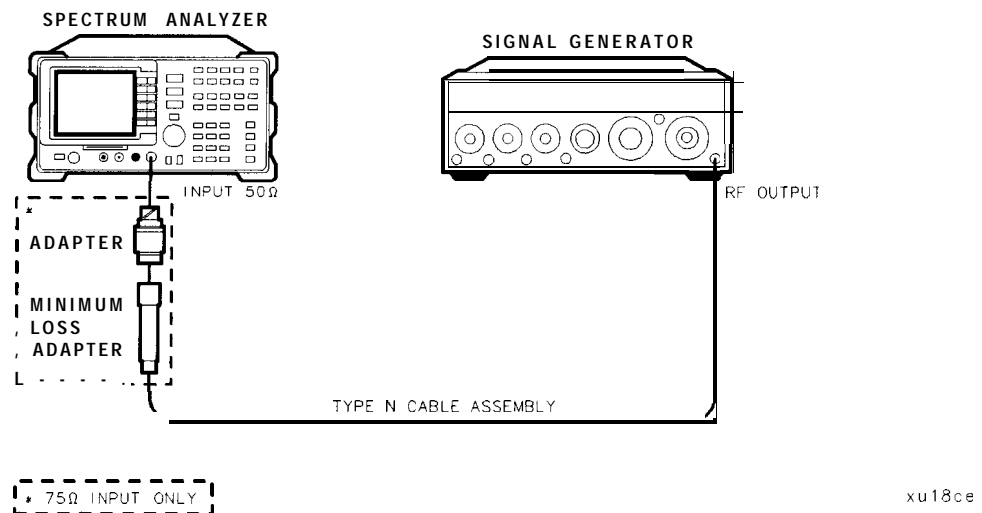

Figure 2-7. Noise Sidebands Test Setup
- Connect the equipment as shown in Figure 2-7.
**[MKR FCTN]** MK TRACK **ON** OFF (ON)